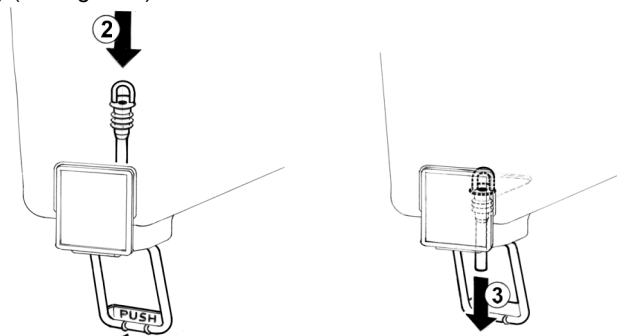

figure 4
- 2 **Pinch tube faucet:** push the dispensing handle (1) and insert the pinch tube into its vertical seat in the bowl bottom(2). Lightly pull the pinch tube end downwards til it is well arranged (3) (see figure 4).